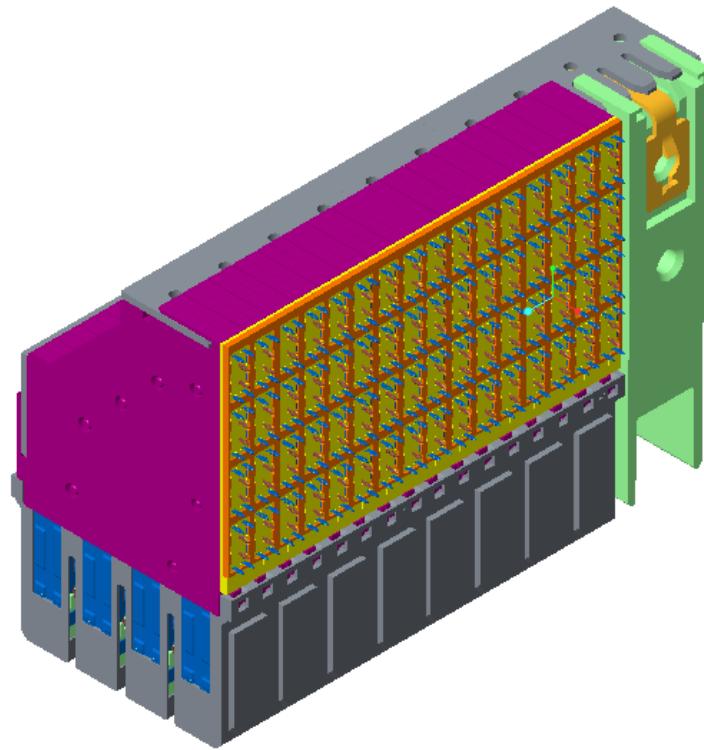

Figure 1: Typical daughtercard connector configuration
- 2.3.1 Daughtercard connector configurations are determined by the customer's system application. Amphenol recommends that for the optimal connector configuration design the connectors be grouped in increments of 4, 5, 6, and 8 column (also referred to as position). This matches the 4, 5, 6, and 8 column groupings of the backplane modules. Guide modules and power modules are typically placed on the ends of the connector to protect Daughtercard connector from handling damage. If both guides and powers are used on the same connector, Amphenol recommends placing them on opposite ends of the signal connector. See Figure 1 for a typical Paladin connector configuration.